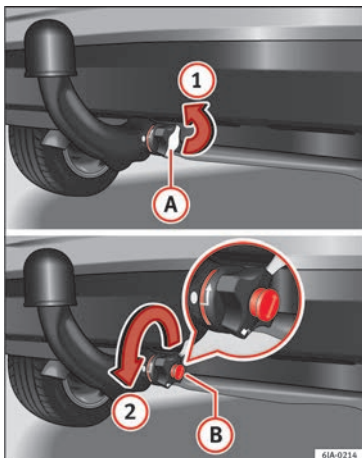

Fig. 105 Remove the key slot cover/unlock with the key.
- Remove cover **(A)** from over the regulator key slot in the direction of arrow **(1)** **»» Fig. 105.**